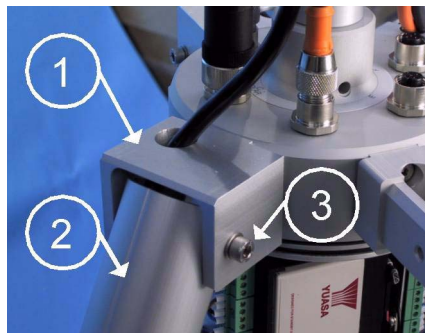

Figure 58 Tripod's Leg Attachment
3. Open the bolt (number 3 in Figure 58 on page 72) of the leg fastener (1) to release the leg (2). Fit the cable inside the leg and guide it through the hole in the leg fastener. Put the leg back into the leg fastener and tighten the bolt (3). Attach the cable to the **DC Power Input** connector.